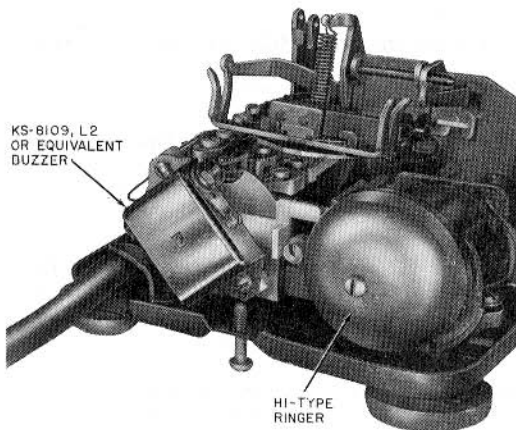

Fig. 8—Location of KS-8109L2 Buzzer
2.12 A KS-8109L2 or equivalent buzzer may be mounted to the H1-type ringer bracket (Fig. 8).